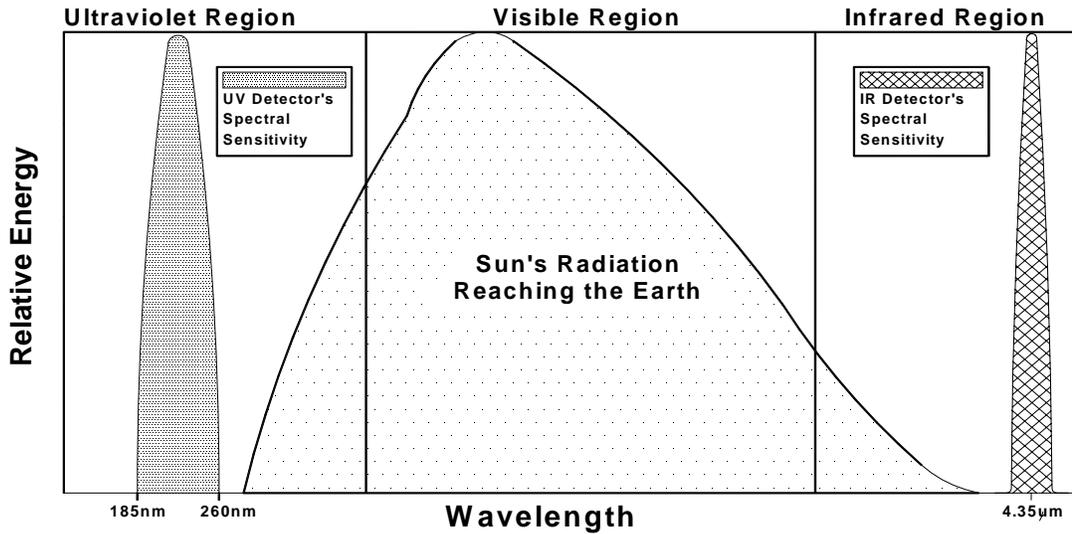

Figure 22: Spectral Response of UV and IR Detectors
The Model FL3101 is a Flame Detector, which contains an ultraviolet phototube that responds to Ultra-Violet (UV) radiation in the 185 to 260 nanometer region (Figure 22). When radiation from a flame reaches the cathode plate within the UV detector tube, electrons are ejected from the cathode plate. These electrons are accelerated towards the positively charged anode of the tube. They collide with molecules of an ionizable gas, with which the tube is filled. This emits more electrons and produces an avalanche condition. More electrons are released which creates a momentary electron flow from the cathode to the anode. This momentary current (pulse) recurs at a rate proportional to the intensity of the UV radiation.
The UV portion of the detector, as described in UV Detector, is combined with an infrared detector, which responds to changes in the intensity of infrared radiation. By sensing very specific wavelengths in both the UV and IR spectra (Figure 22) and then processing these signals with a microcomputer, a very high degree of discrimination is achieved.
UV Detector Pass Band:	(Figure 22) 185 to 260 nanometers
IR Detector center wavelength:	(Figure 22) 4.35 microns